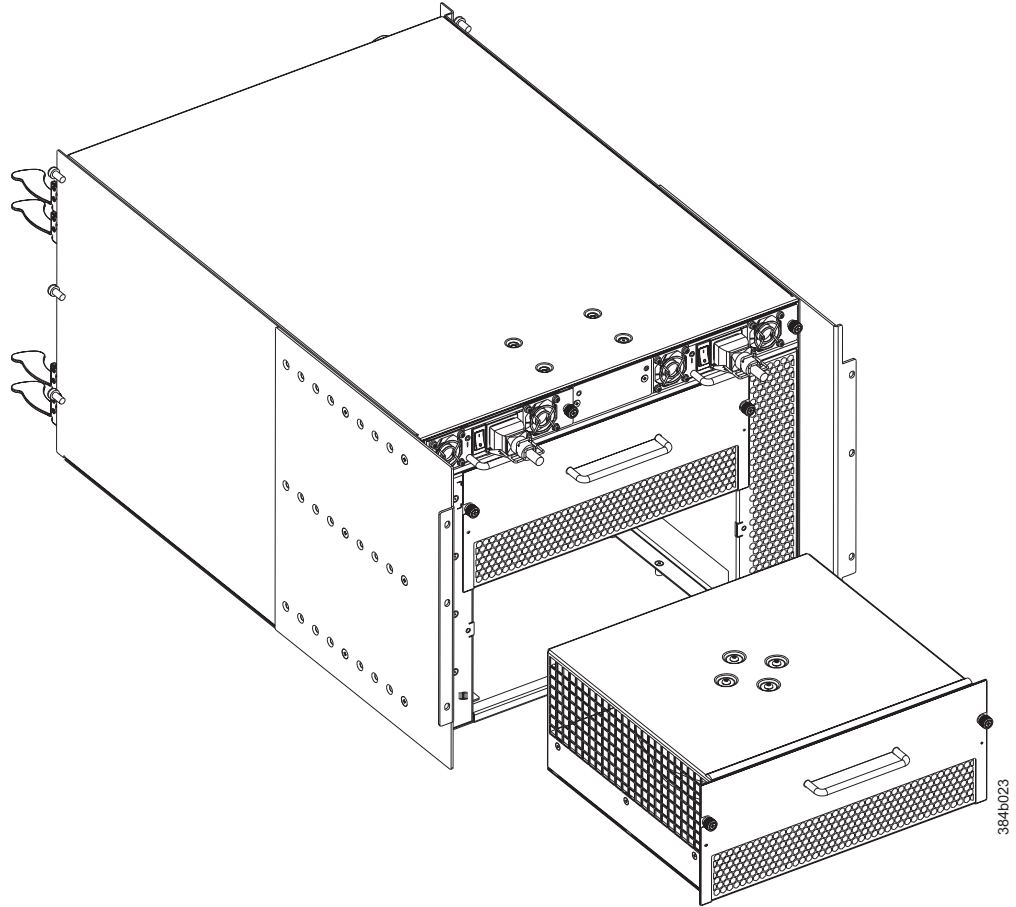

Figure 39. Blower assembly removal and replacement
3. Grasp the handle and pull, sliding the blower assembly from the chassis and supporting the blower assembly from beneath as you remove it (see Figure 39).